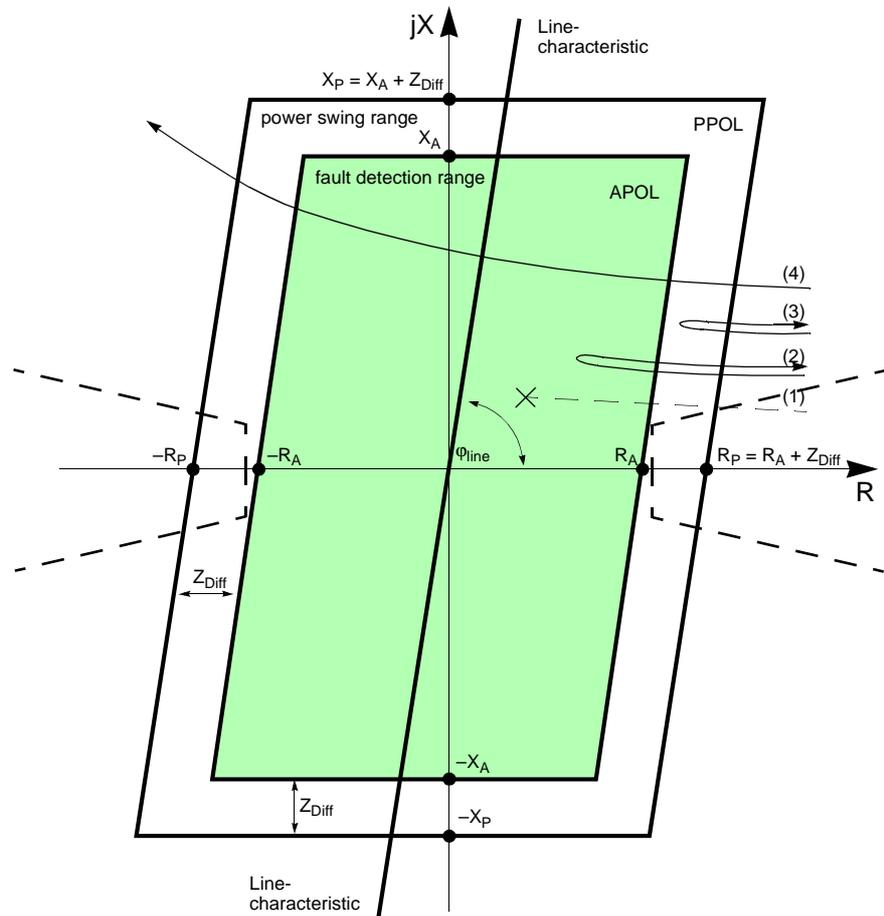

Figure 6-40 Pick up characteristic of the power swing detection for a polygon.
To detect a power swing, the rate of change of the impedance vector is measured. The measurement is started when the impedance vector enters the power swing measuring range PPOL (refer to Figure 6-40). The fault detection range APOL is made up of the largest set values for R and X of all the activated zones. The power swing zone has a minimum distance Z_{diff} of 5Ω (at $I_N = 1 A$) or 1Ω (at $I_N = 5 A$) in all directions from the fault detection zone. In the event of a short-circuit (1), the impedance vector abruptly changes from the load condition into this fault detection range. However, in the event of a power swing, the apparent impedance vector initially enters the power swing range PPOL and only later enters the fault detection range APOL (2). It is also possible that a power swing vector will enter the area of the power swing range and leave it again without coming into contact with the fault detection range (3). If the vector enters the power swing polygon and passes through it leaving on the opposite side, then the sections of the network seen from the relay location have lost synchronism (4): The power transfer is unstable.
When the impedance vectors identified by the power swing detection exit the power swing characteristic PPOL, the sign of the R components in the vectors are checked to see if they are the same on exiting and entering the characteristic. If this is the case, the power swing process is inclined to stabilize. Otherwise, the vector passed through the power swing characteristic (loss of synchronism, case (4) in Figure 6-40). The device issues a three-pole trip command, thereby isolating the two system segments from each other. Power swing tripping is alarmed.